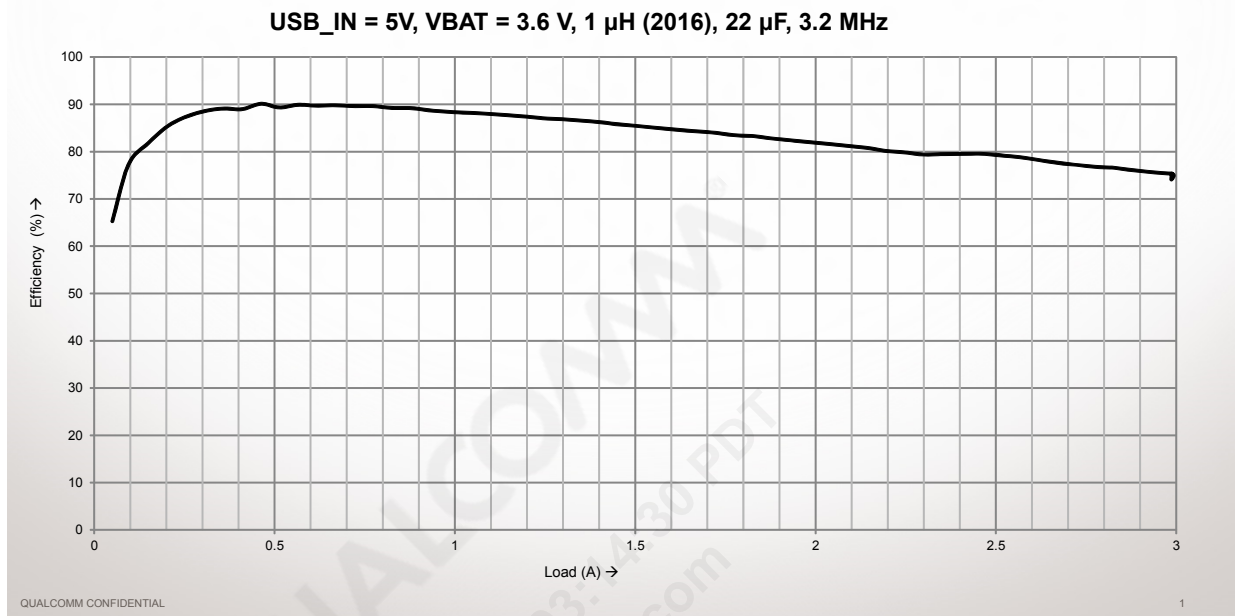

Figure 3-1 SMBB efficiency plot on the PM8941 device
2. Figure 3-1 shows the SMBC efficiency plot at VBAT = 3.6 V and USB_IN = 5 V.